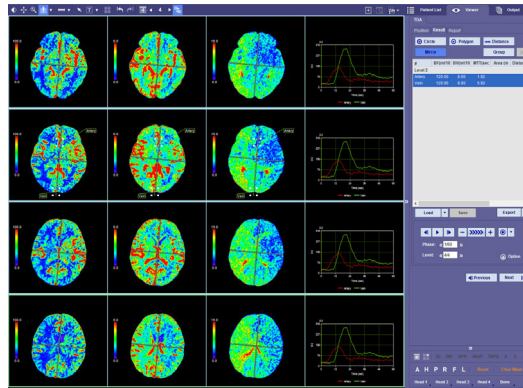

Figure 9-1: Automatic TDA Results
4. The software calculates the TDA, applies motion correction, and displays the result. (Figure 9-1)
The TDA calculation generates a set of image maps. (Figure 9-1) Only four maps can be displayed for each level at any one time. The default images displayed are a profile graph, the blood volume image (BV), the mean time transit image (MTT) and the MPR image.